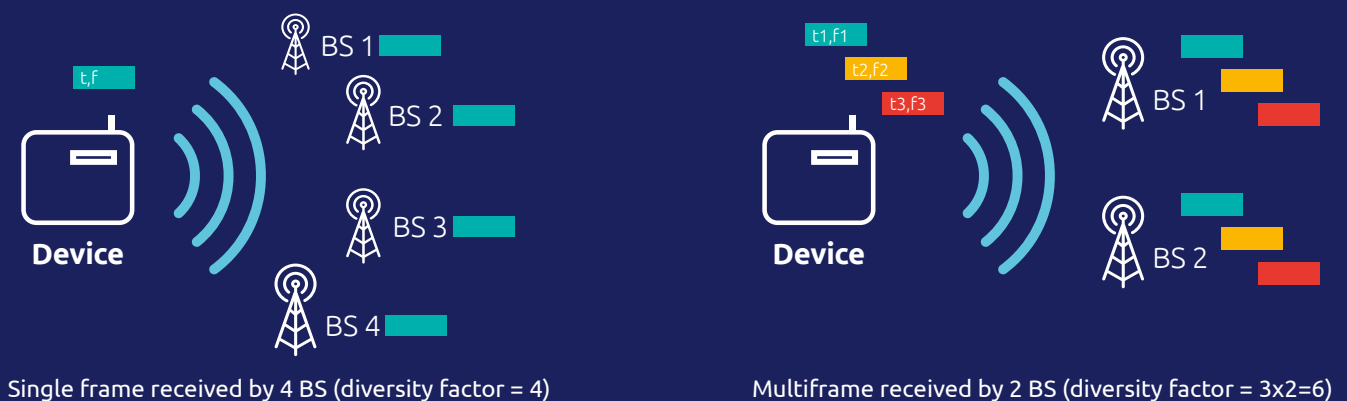

Figure 2: global diversity factor illustration with single frame (left) or multiframe (right)
Classical wireless systems *tightly discipline* their devices to minimize collision and packet loss. Tight discipline requires link control. Remember figure 2 in §2.2? Link control means more communication overhead and lower energy efficiency...not really suitable for small, infrequent IoT transmissions!
- ✦ optional time diversity with device-generated multiple frames, illustrated on the right-hand side of figure 2, consists of a device generating 3 distinct radio bursts (same payload, different frequency and coding).
The global diversity factor is simply the number of effective receptions in the network for a given transmission, as illustrated in figure 2. The higher the global diversity factor, the higher the quality of service.